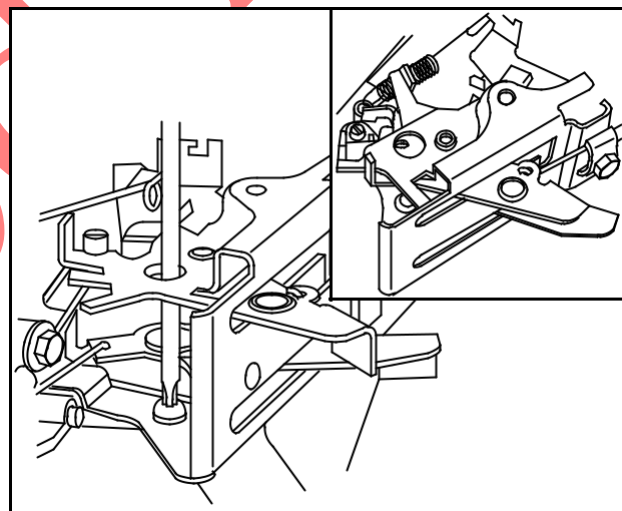

Fig. 60
Model Series 91200, 92200, 94200 (Fig. 60)
3. Move choke (bottom) lever to full choke position, Fig. 60.